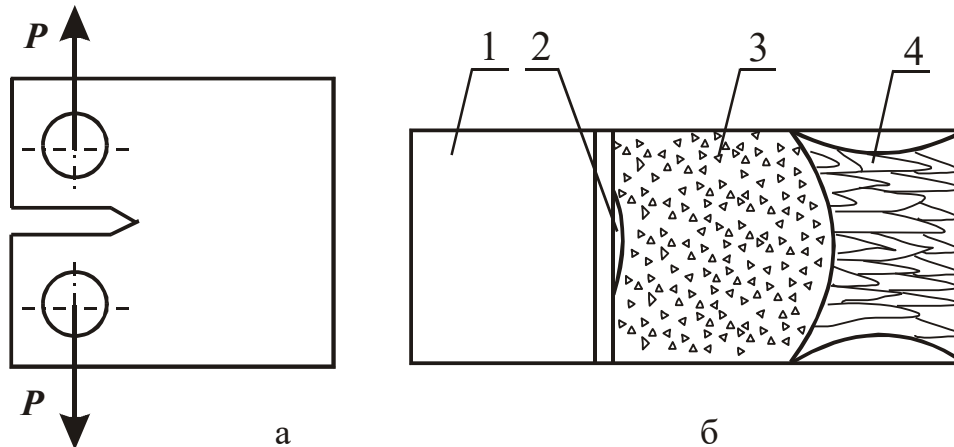

Figure. 1.2. The standard model for testing the strength of materials under cyclic loading (a) and scheme of fatigue destruction (b)
Heterogeneity of fracture surface visually visible with the change of roughness on different parts of fracture. At fatigue destruction roughness by the surface can be divided into areas: nucleation of cracks 2, development of fatigue destruction 3 (small roughness) and static fracture 4 (high roughness) (see Fig. 1.2). In addition, the sample shows a cut (stress concentrators).
Areas of fracture formed at the final stage of destruction as a result of fatigue fracture cross-sectional size decreases to a critical value and cyclic tension reaches the boundary strength. In the area of brittle materials fracture has large crystalline structure and for viscous materials are characteristic fibrous structure and plastic braces along the periphery of the sample (Fig. 1.2 b, pos. 4).